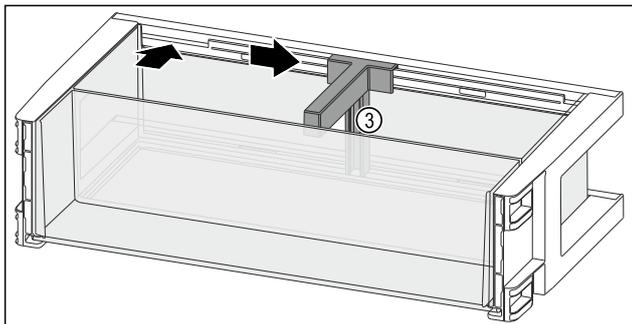

Fig. 118
- ▶ Insert the bottle holder Fig. 118 (3) in the recess.
- ▶ Push the bottle holder Fig. 118 (3) to the desired position to the side.